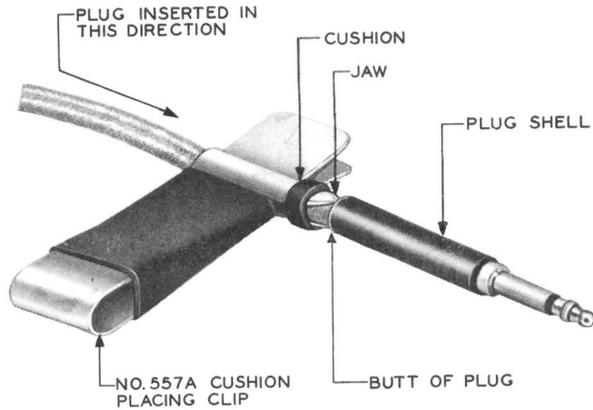

Fig. 2 - Showing Jaws of No. 557A Cushion-placing Clip at Butt of Plug
4.02 After the cushion has been placed on the No. 557A cushion-placing clip as covered in 3.03, proceed as follows: Hold the cord as close to the butt of the plug as possible using care to avoid bending the cord sharply. Push the tip of the plug through the jaws of the clip, rocking the plug slightly as the shell of the plug starts to pass through the cushion. Push the plug through the cushion until the edge of the clip opposite the jaws is even with the butt of the plug. Then shift hands and pull the plug and cord through the clip the rest of the way until the tips of the jaws just clear the butt of the plug and are resting on the cord as shown in Fig. 2. This procedure can be facilitated by rocking the plug slightly. With the No. 557A clip in the position shown in Fig. 2, hold the cushion in one hand and pull on the clip with the other hand, using a slight rocking action until the cushion is removed from the clip. A KS-6320 orange stick may be used to assist in removing the cushion. Exercise care not to scratch the shell during this operation.